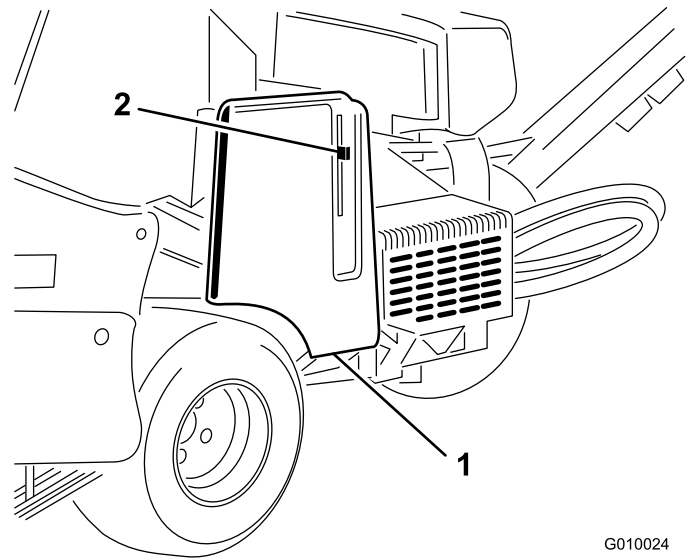
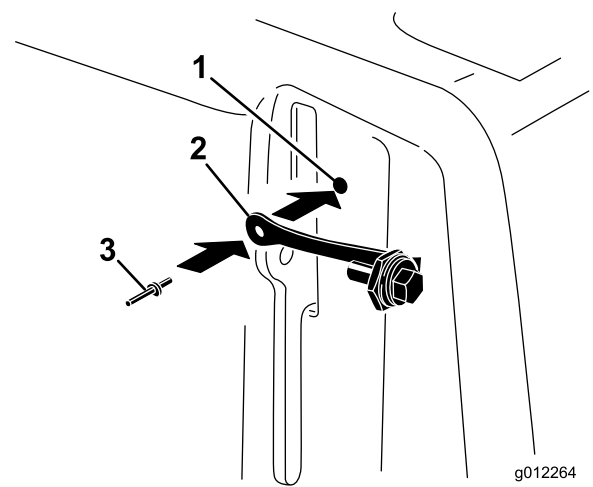

Figure 8
Figure 9
- Locate the hole in the belt cover next to the latch lever (Figure 8 and Figure 9).